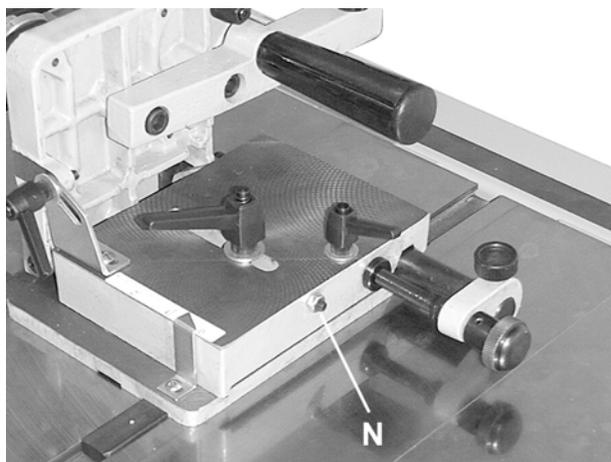

Figure 6
10. To prevent the fence from being pushed, or moved, into the blade, loosen the nut (N) on the setscrew and turn the setscrew clockwise until it bottoms out (Figure 6). Tighten down the nut.